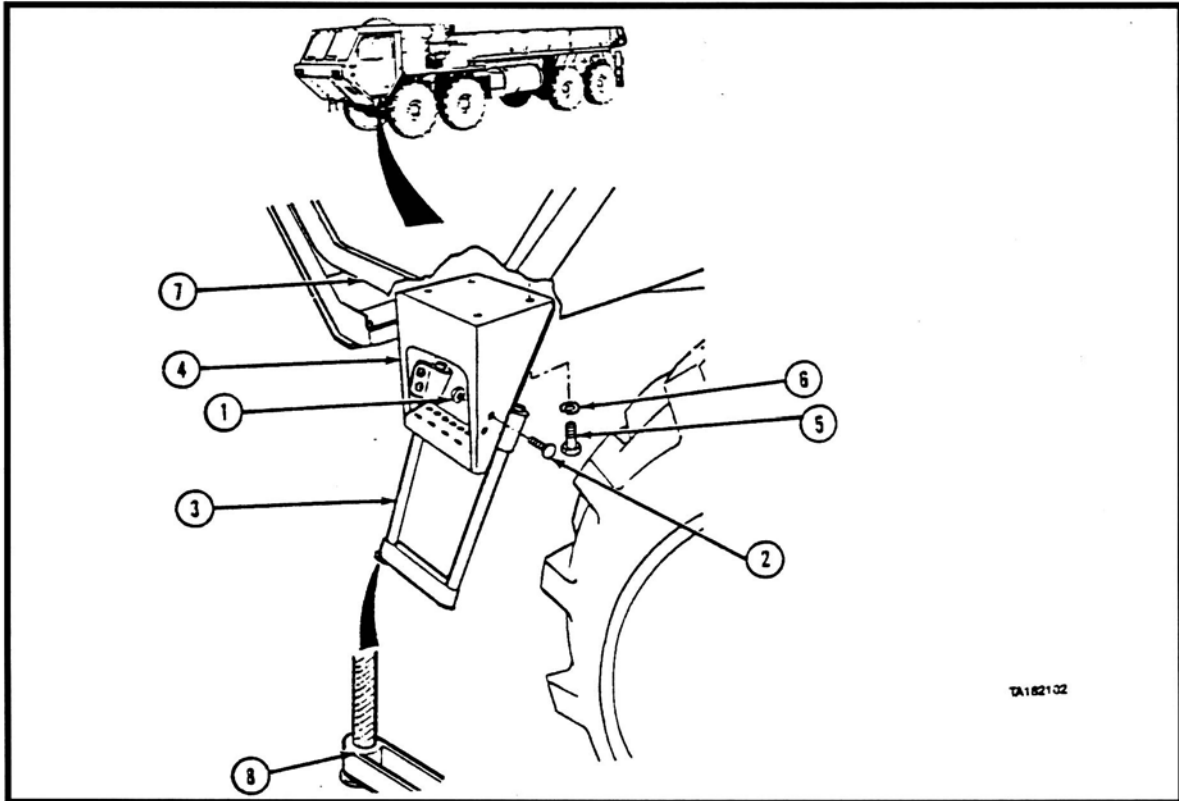

Figure 7. Remove the Cab Step.
- a. Remove the three screws (8) that secure the Headlights to the cab (LH, RH). Retain the hardware for the re-installation of the Headlights.
- a. Remove the five screws (9) that secure the Marker Lights to the cab (LH, RH). Retain the hardware for the re-installation of the Marker Lights.
- a. Remove the four screws (Item 5 in Figure 7) and lockwashers (6) from the Cab Step (4), and remove the Cab Step (4) from the bottom of the cab (7).